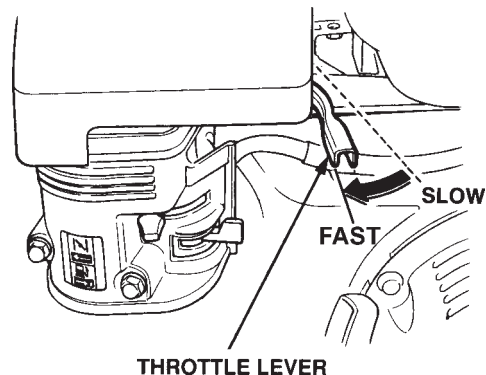

Figure 7. Throttle lever Lever
3. Move the throttle lever (Figure 7) away from the slow position, about 1/3 of the way toward the fast position.